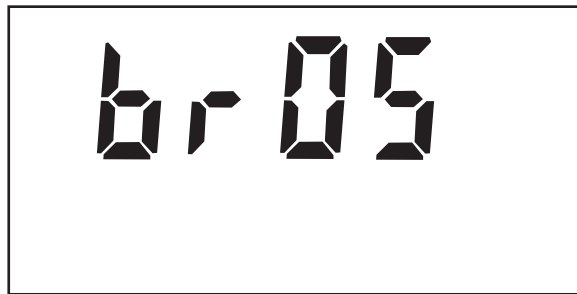

Figure 10
1. Press the  button. The display should look similar to Figure 10. The factory default setting is “br 05” as shown in the figure.